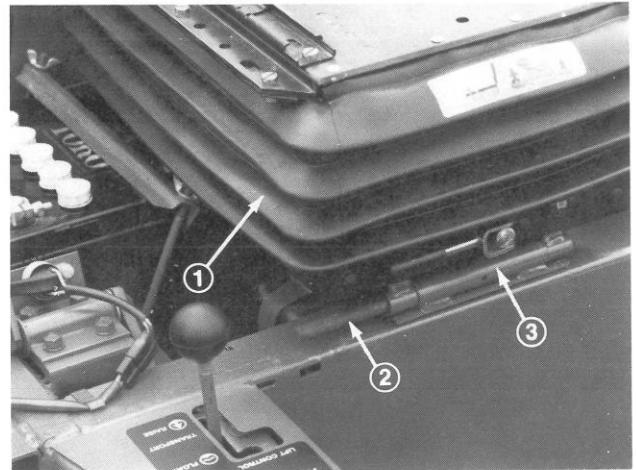

Figure 10
6. Install seat suspension and seat support to unit with pivot shaft and roll pin (Fig. 10).